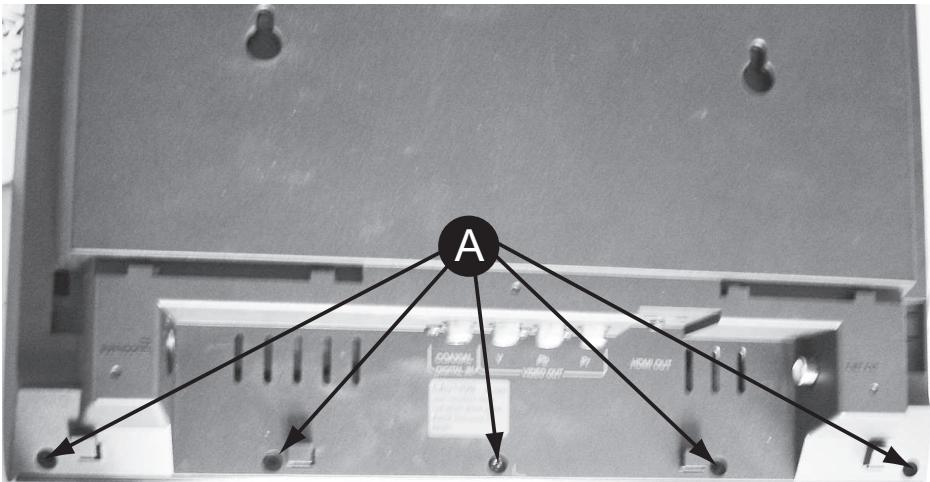
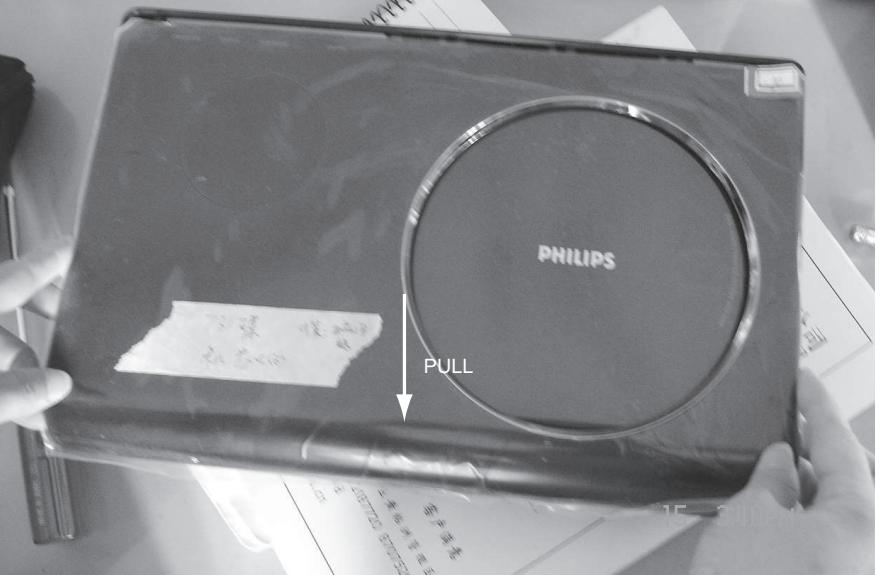

Figure 2
Figure 3
- 2) Loosen 5 screws "A" at the back panel as shown in figure 2, and pull the front panel to remove it as shown in figure 3.